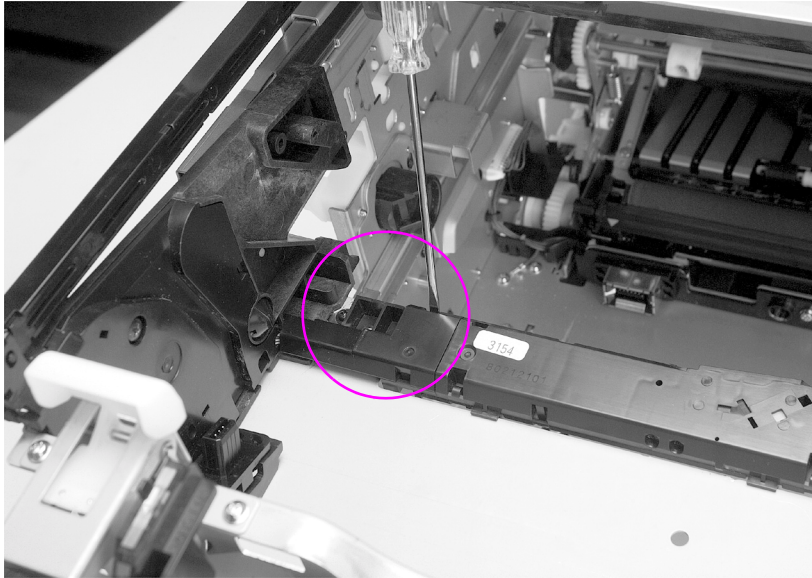

Figure 6-25 Densitometer removal and replacement (2 of 2)
- 4 Remove the plastic cable cover as shown in Figure 6-25.